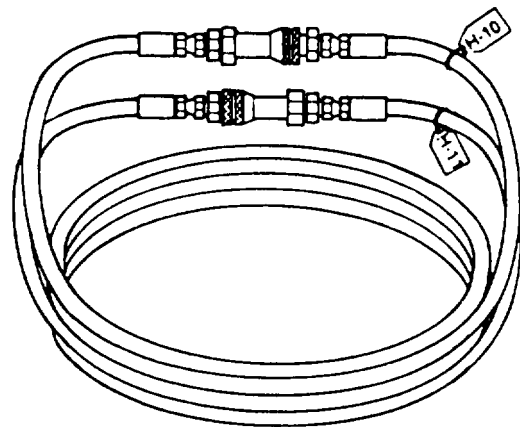

Figure 5-14. *Extension Hoses*
- c. Remove two coiled extension hoses (Figure 5-14) from tool box. Their ends are connected together by quick disconnects, and are marked with ID tags reading H-10 and H-11. Take them to right side of vehicle.